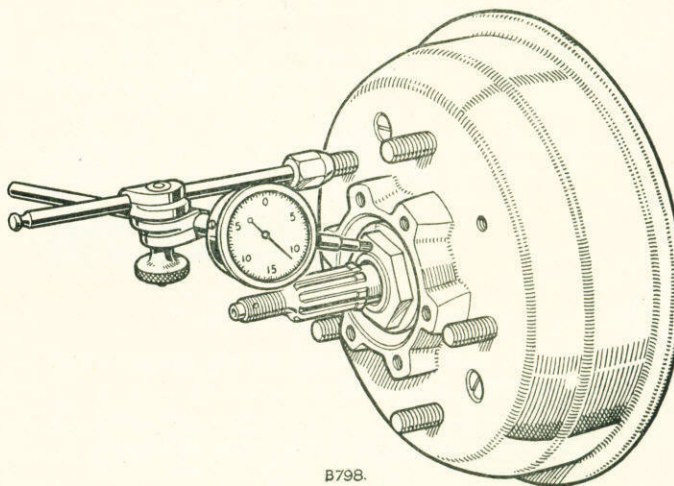

Fig. F-11—Checking hub end-float.
2. Mount a dial test indicator on one of the road wheel studs using the bracket, illustrated at Fig. F-11. The total hub movement should be .003 to .004 in. (0,08 to 0,10 mm).